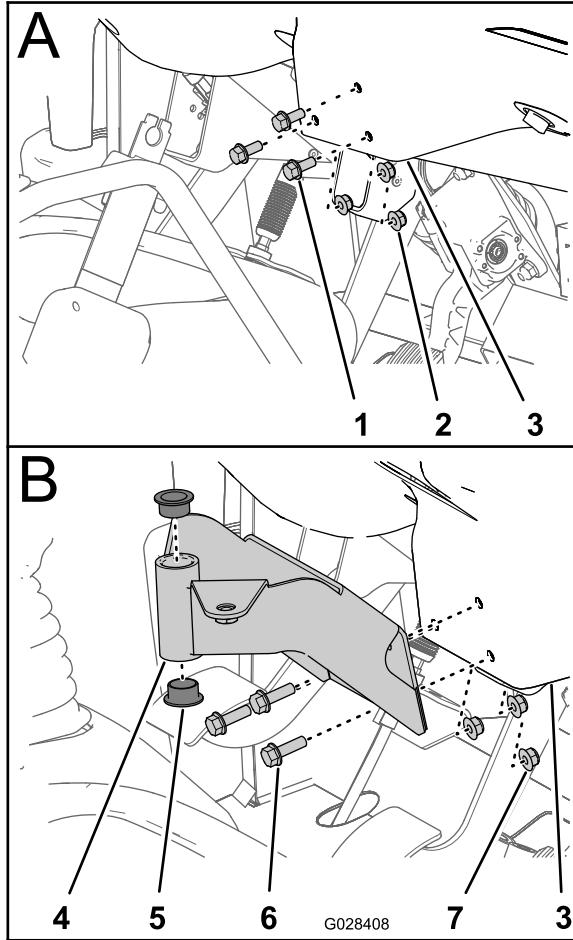

Figure 18
1. Remove the 3 bolts and 3 nuts that secure the lower-center portion of the dash panel to the dash support bracket (Figure 18).
2. Align the holes in the mounting bracket for the control console with the holes in the dash and support bracket (Figure 18).
4. Torque the nuts and bolts to (Figure 18).
- Insert the 2 plastic bushings into the mounting bracket (Figure 18).